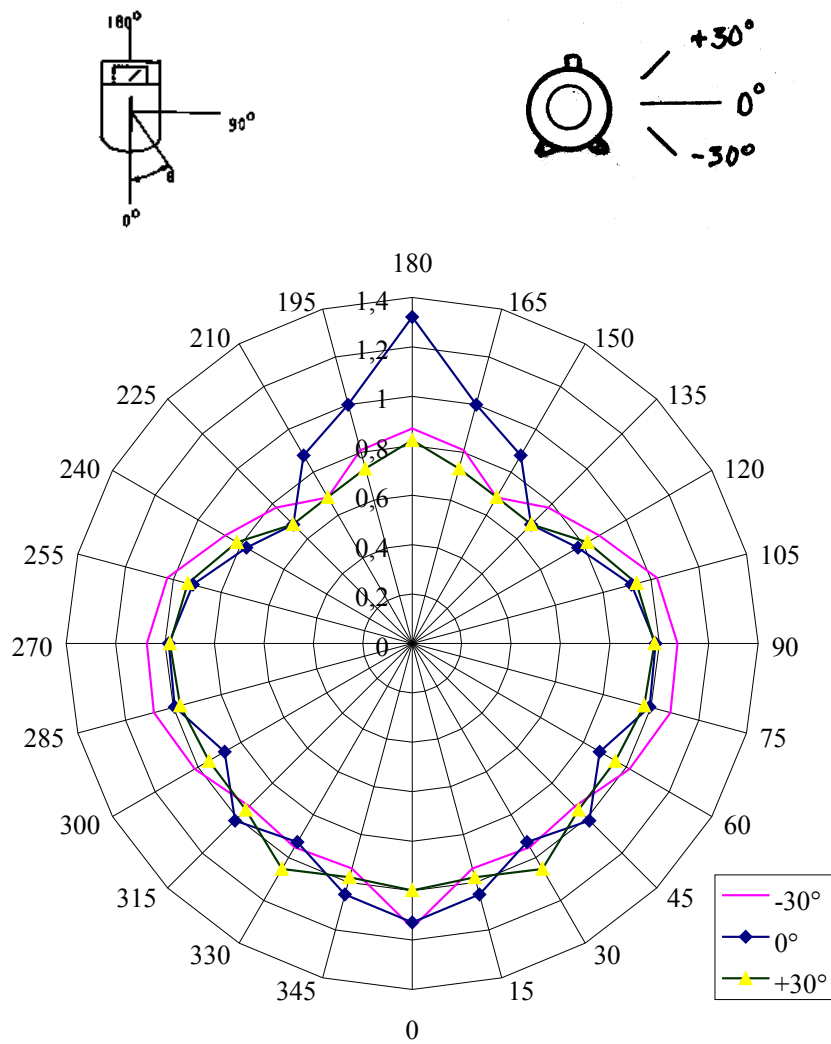

Figure 5.3 NEUTRON MONITOR 2222 A
- o Broad beam $\theta = 90^\circ$ (se figure 5.3)
- x Broad beam $\theta = 0^\circ$ (se figure 5.3)